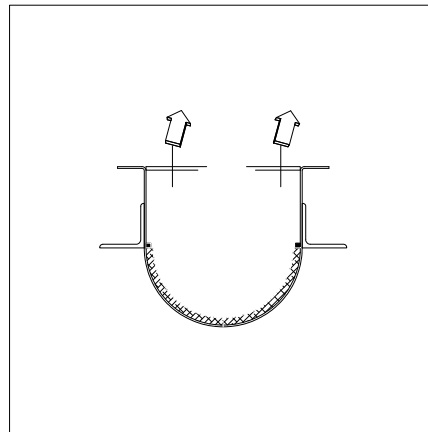

Figure 2.5.2b - Lifting the Spiral
3. Remove the spiral from the trough or lift it to increase accessibility (see Fig 2.5.2b).